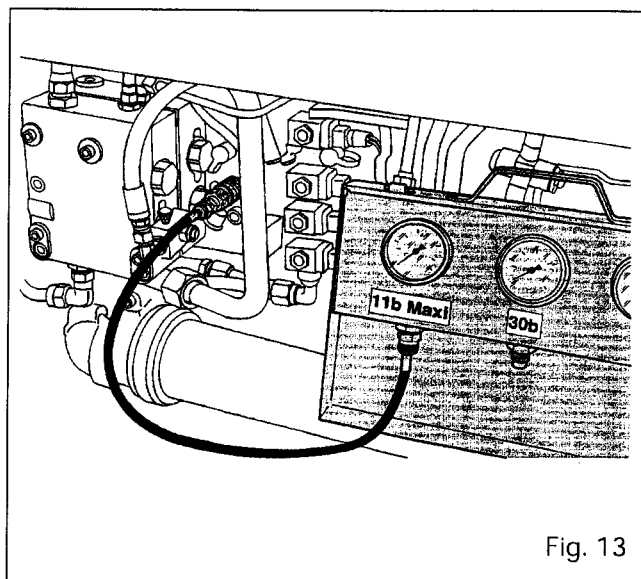

Fig. 13
- Connect a pressure gauge to the diagnostic connector located on the right-hand cover (Figures 13 and 14) to check **P17**.